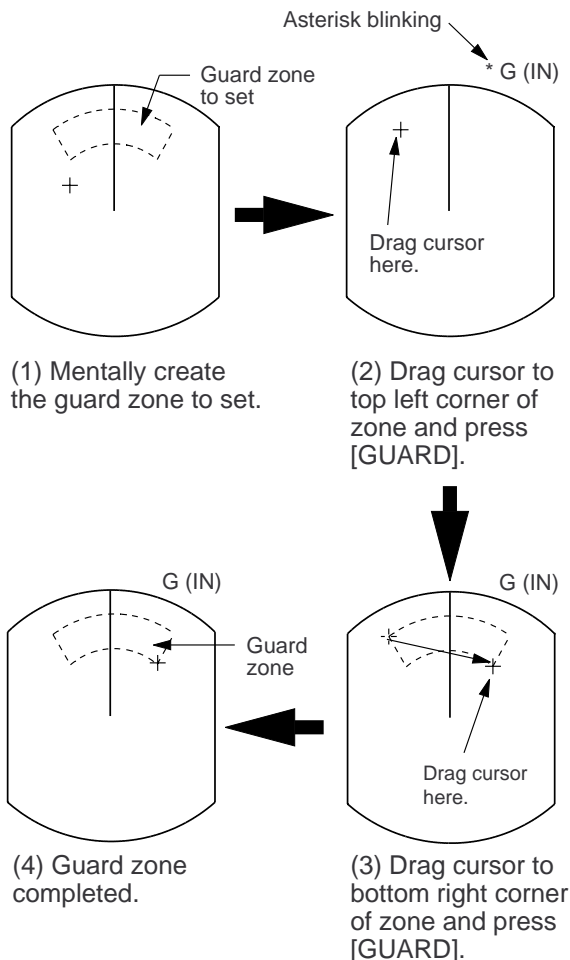

Figure 2-14 How to set a guard zone
- 1) Mentally create the guard zone you want to display. See Figure 2-14 (1).
- 2) Operate the cursor pad to set cursor on top (bottom) left edge of the guard zone. Press the [GUARD] key. *G (IN) (or G OUT)), with asterisk blinking, appears at the top right-hand corner on the display. (The asterisk indicates the guard zone is partially set.) See Figure 2-14 (2).
- 3) Operate the cursor pad to set cursor on bottom (top) right edge of the guard zone and press the [GUARD] key. The asterisk disappears. See Figure 2-14 (3).
- 4) Guard zone appears on the display. See Figure 2-14 (4).